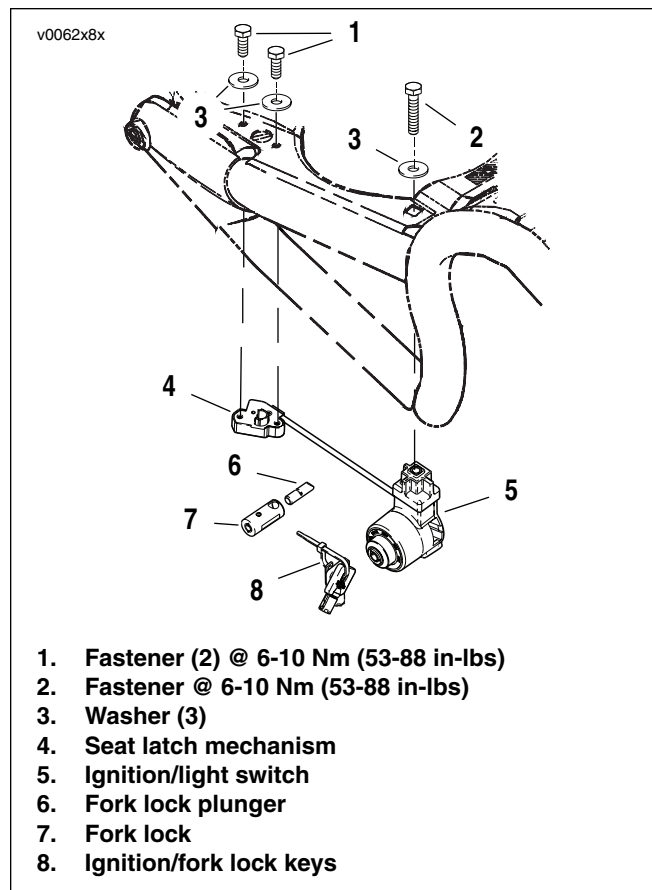

Figure 8-7. Ignition/Light Switch (VRSCA/VRSCD)
3. See Figure 8-7. Remove two fasteners (1), washers (3) and seat latch mechanism (4) from frame.
4. Remove fastener (2), washer (3) and ignition/light switch (5) from frame.
7. See Figure 8-7. Install ignition/light switch into hole in frame. Make sure square boss on top of switch fits into square hole in frame. Secure with fastener (2) and washer (3). Tighten fastener to 6-10 Nm (53-88 in-lbs).
8. Secure seat latch mechanism to frame with two fasteners (1) and washers (3). Tighten fasteners to 6-10 Nm (53-88 in-lbs).